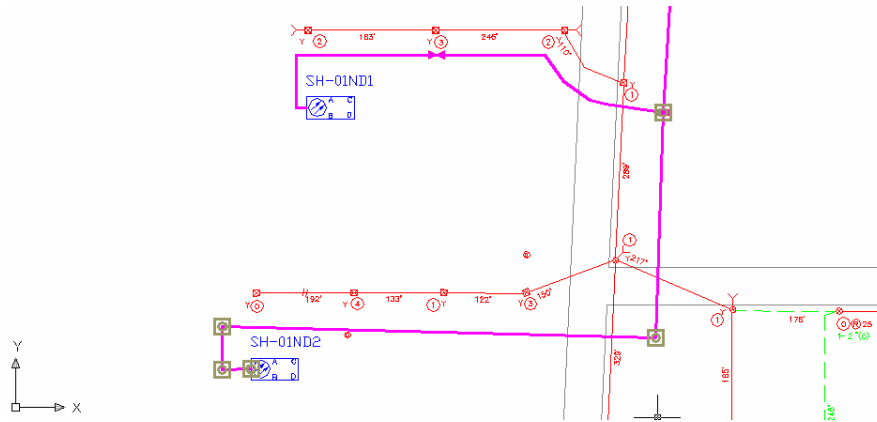

Figure 128 – Final Design Showing New Cable and Node.
We will begin this process by first placing a new node. We will use the “cut cable” function to create a new splice. And finally, we will run new cable to our new node, so that our finished design resembles Figure 128, above.
1. Place a new node called **SH-01ND2** in the place shown in Figure 128. (Refer to page 101 for details on how to add a new node.)